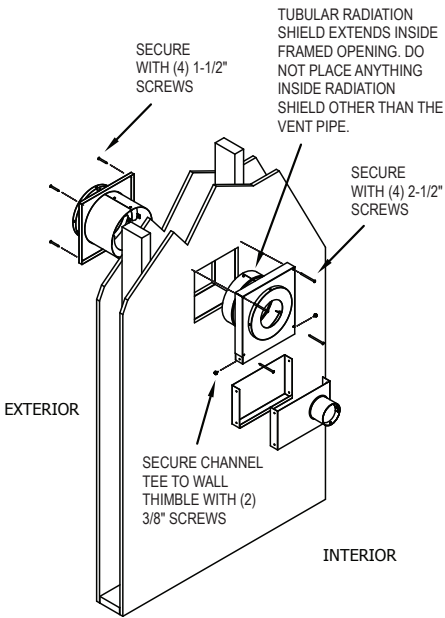
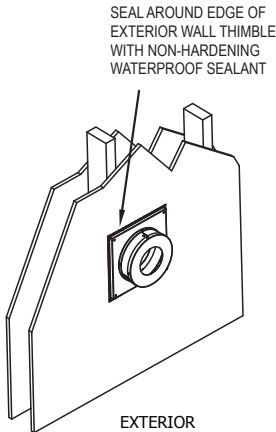

Figure 2
Figure 3
Step 3. Install the CAS Wall Thimble. Cut and frame a 7-1/2" x 7-1/2" opening in the wall at the location determined for the CAS Wall Thimble. Inside the home, install the black-painted interior portion of the CAS Wall Thimble into the opening, centered within the framing. Make sure the air-inlet channel faces downwards. Secure the interior portion of the CAS Wall Thimble with (4) 2-1/2" long wood screws. On the exterior of the home, install the non-painted exterior portion of the CAS Wall Thimble. The tubular radiation shield of the exterior portion slides into the radiation shield of the interior portion within the framed opening. Important: Be sure the air-inlet openings of the outer half of the wall thimble face downwards to prevent rain and snow infiltration (**Fig 2**). Secure the exterior portion of the CAS Wall Thimble to the wall with (4) 1-1/2" wood screws. Seal the perimeter edge of the Wall Thimble where it meets the wall with a waterproof sealant (**Fig 3**). Important: Do not place anything inside the Wall Thimble other than PelletVent pipe. The space around the vent pipe inside the Thimble must remain empty to prevent overheating the Wall Thimble and to enable proper air flow to the appliance.